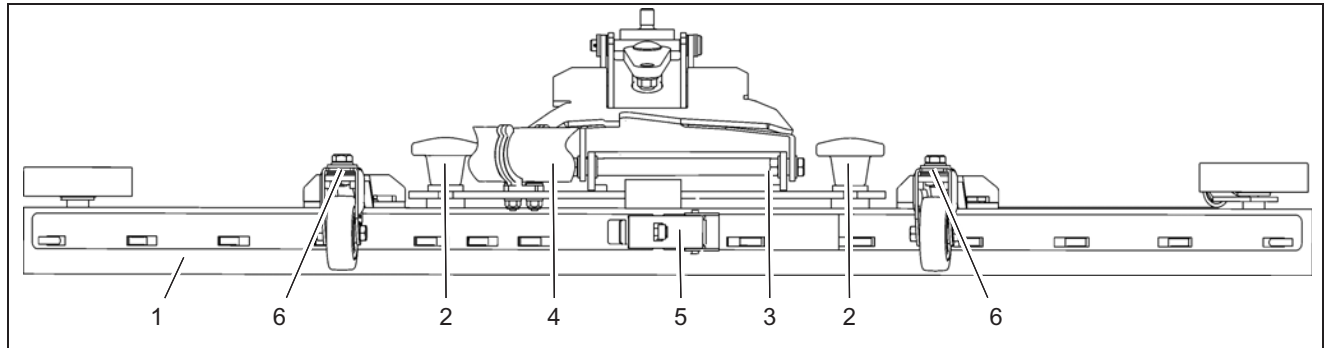

Fig.10
Check the squeegee (Fig. 10/1) daily and clean as necessary. To clean it lift the squeegee out, pull off the suction hose (Fig. 10/4), loosen the two star-shaped knobs (Fig. 10/2) and remove the squeegee.
Check the inner and outer sealing strips on the squeegee (Fig. 10/1) weekly for signs of wear. The sealing strips can be used fourfold by turning them.
3. Unlock the fastening device (Fig. 10/5) and remove the outer sealing strip. Turn the sealing strip or install a new one, as necessary. Change the inner sealing strip in the same way.